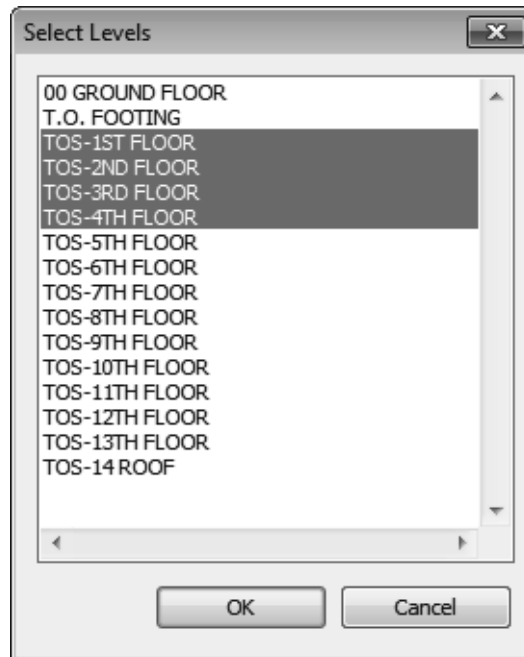

Figure 7–14
4. In the Select Levels dialog box, as shown in Figure 7–14, select the levels to which you want to copy the beams.